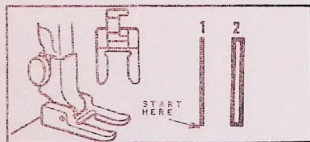

Fig. 27
1. Remove regular presser foot and replace with buttonhole foot. See Fig. 27.
6. The buttonhole will consist of two parallel rows of satin stitches connected at the top and bottom. The rows of satin stitches are made as the needle swings alternately to the left and right on the downward throw of the needle. To make an accurate buttonhole, position the material under the buttonhole foot so that the needle, on the left hand downward throw, will be positioned to enter the material in the center of the mark at the end nearest to operator. See No. 1 Fig. 27. Make this test by turning the hand wheel about $\frac{1}{4}$ turn each way, but do not permit the needle to actually enter the material at this time. If the needle should be positioned in such a manner that it would enter the material on the right hand downward throw, remove the material, then hold the needle and bobbin threads loosely in the left hand and turn the hand wheel one complete turn toward the operator so that the needle will go down and up again to be in position to enter the material on the left hand downward throw. After the needle is raised, pull both threads up to avoid broken threads. Reposition material under buttonhole foot. Lower the presser bar, making certain the needle is clear of the material.